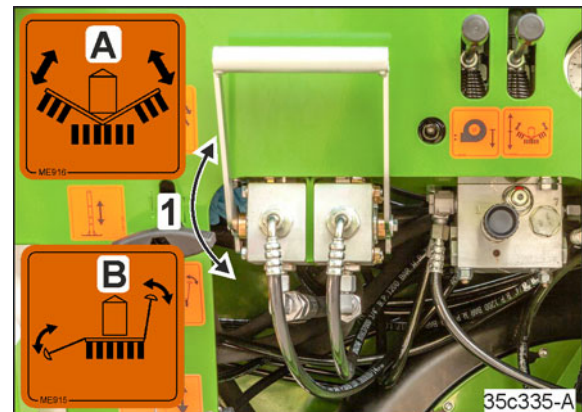

Fig. 278
2. The valve lever (Fig. 278/1) is in position "A".